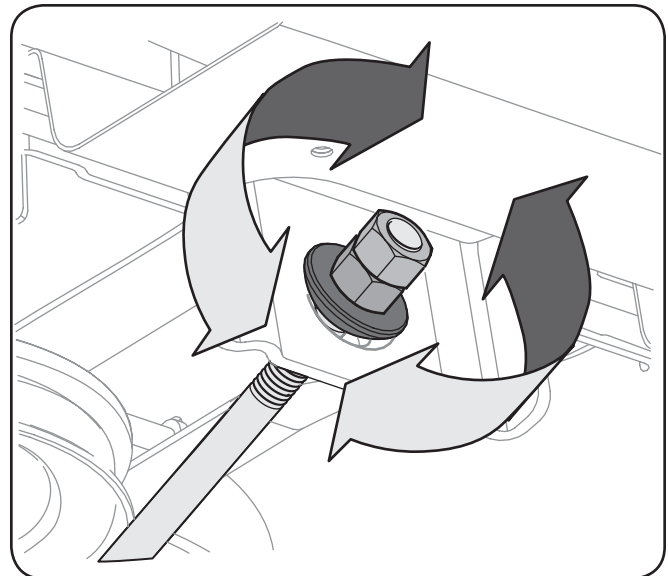

Figure 6-5
5. To *raise* the front of the deck, remove the end cap, loosen the outer nut then tighten (thread inward) the nut against the front hanger bracket. See Figure 6-5. When proper adjustment is achieved, re-tighten the outer nut and replace the end cap.
6. To *lower* the front of the deck, remove the end cap, loosen the outer nut then loosen (thread outward) the nut, away from the front hanger bracket. See Figure 6-5. When proper adjustment is achieved, re-tighten the outer nut and replace the end cap.